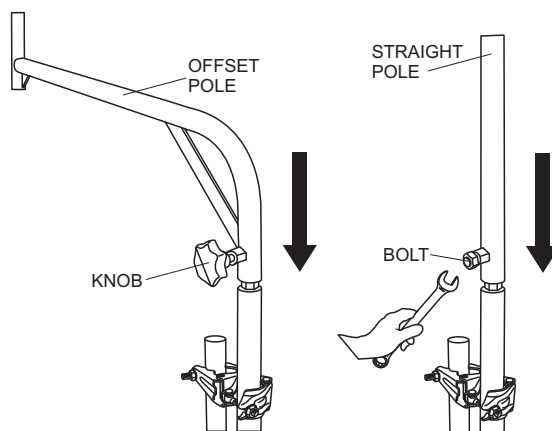

Figure 14. Offset Pole Attachment
5. Place the offset pole (or an optional straight pole, if desired) on top of the straight pole. Tighten knob or bolt securely. See Figure 14.